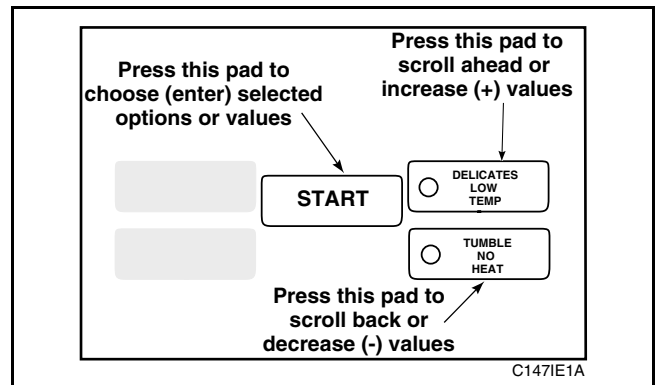

Figure 60
- Press the LOW TEMP (+) pad or the NO HEAT (-) pad to increase or decrease the current three-digit number to the desired three-digit number from Chart 6, *Figure 60*.